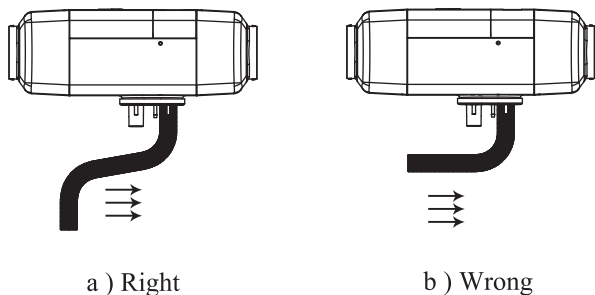
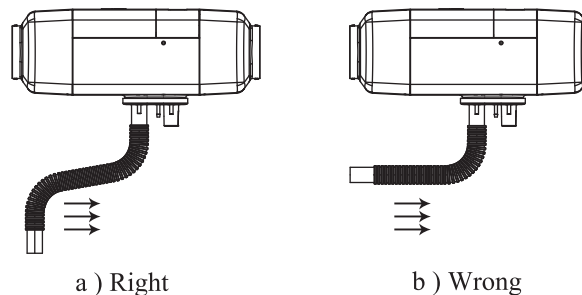

Fig. 25
Fig. 27
4.6.4 - The openings of the pipes shall not be opposite to the direction of the running vehicle. (Fig. 25 and Fig. 27).